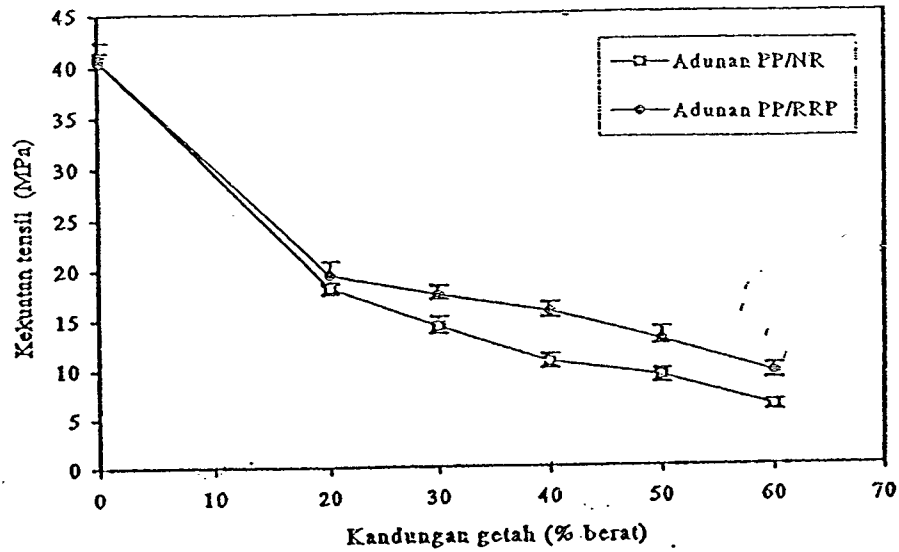
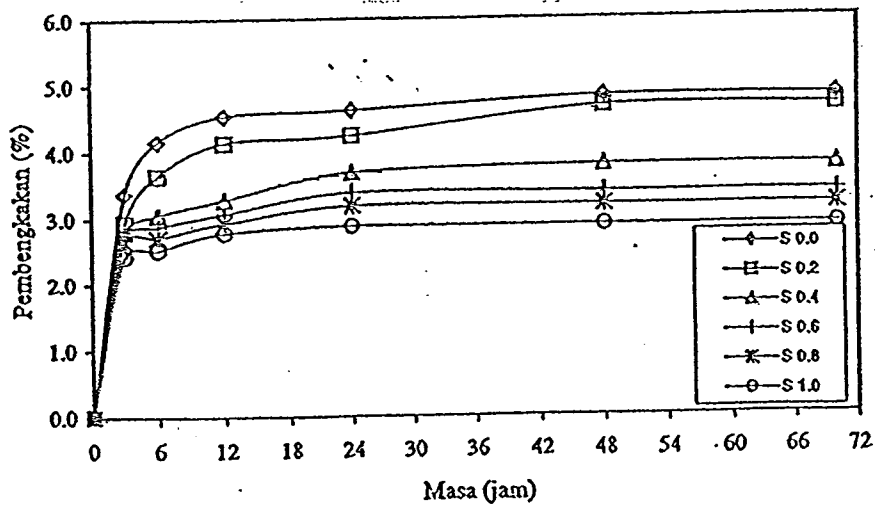

Figure 5: Tensile strength versus rubber composition.
Figure 6: Swelling percentage curve versus time of PP/NR/RRP blends with different sulphur concentration.
- [b] Figure 5 shows the comparison relationship between tensile strength and rubber composition of polypropylene / natural rubber (PP/NR) blends and PP / recycle rubber powder (PP/RRP) blends. Figure 6 shows the swelling percentage curves versus time of PP/NR/RRP blends using different sulphur concentration. Discuss the results obtained in Figure 5 and Figure 6.